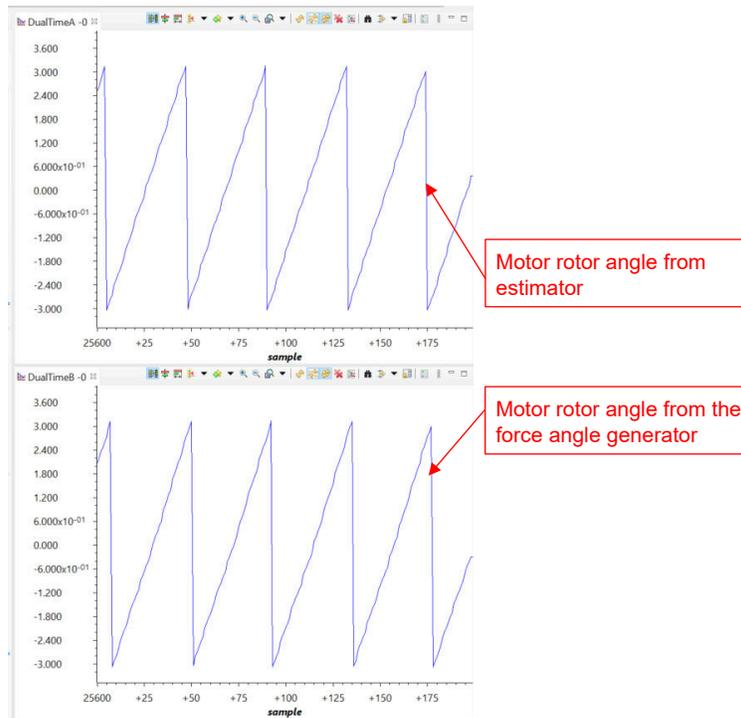

Figure 3-41. Build Level 2: Motor Rotor Angle Waveforms With Graph Tool
- c. Configuring DATALOG module four inputs as the following codes. The angle from the force angle generator or estimator waveforms on the graph tool as shown in Figure 3-41. Notice that the angle of the force angle generator is very similar as the estimated rotor angle of the FAST or eSMO estimator.
Use Datalog with Graph Tool to monitor rotor angle of the motor from the angle generator and angle from the FAST estimator as shown in Figure 3-41.